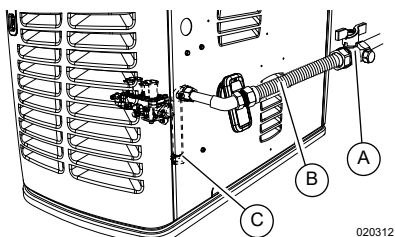

Figure 5-1. Sediment Trap, Fuel Shutoff Valve with Manometer Port, and Flexible Fuel Line
See Figure 5-1. The generator will require an external manual fuel shutoff valve (A) on the fuel line.
See Figure 5-1. When connecting flexible fuel line (B) to generator, use a listed assembly meeting the requirements of ANSI Z21.75/CSA 6.27—Connectors for Outdoor Gas Appliances and Manufactured Homes or AGA-approved flexible fuel line in accordance with local regulations.
See Figure 5-1. Some local codes require a sediment trap (C). The fuel regulator connection has an integrated sediment trap.
NOTE: Fuel pressure can also be tested at manometer port on fuel shutoff valve (if equipped) shown in Figure 5-1.